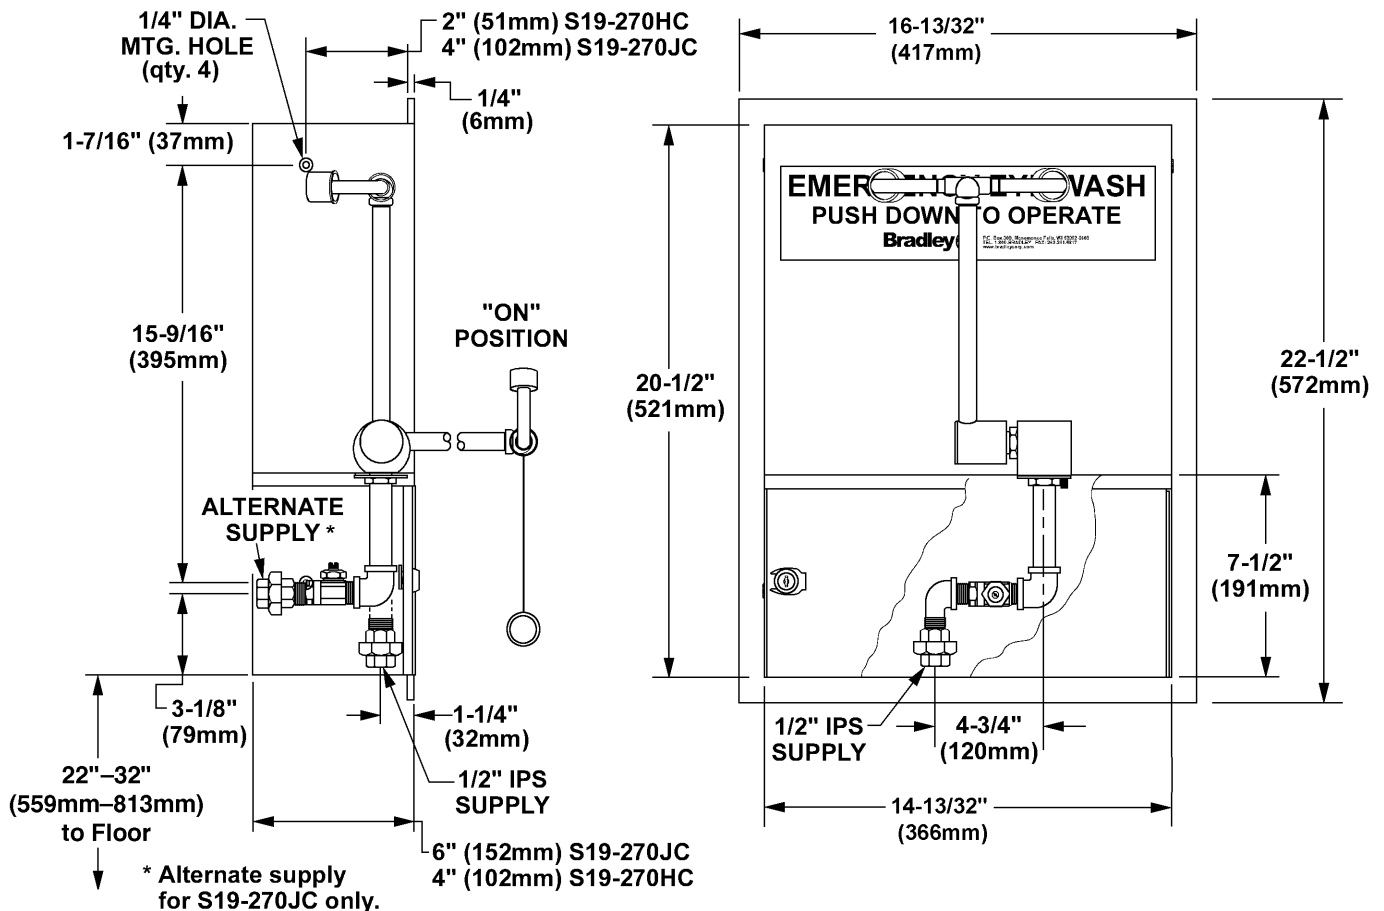

Figure 2
2. Rough-in 1/2" NPT water supply at the dimensions shown in Figure 2.
3. Position unit in wall opening and mount eyewash in wall with four bolts (supplied by installer) at the locations shown in Figure 2.